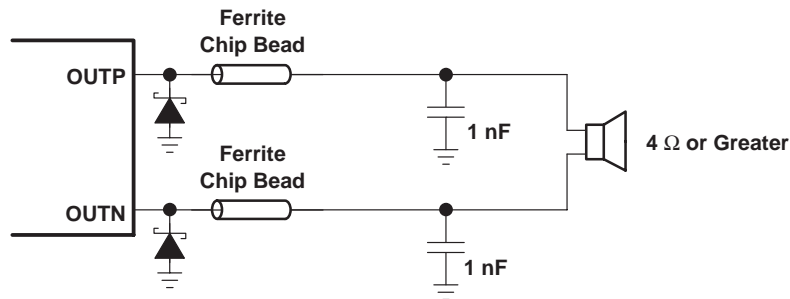
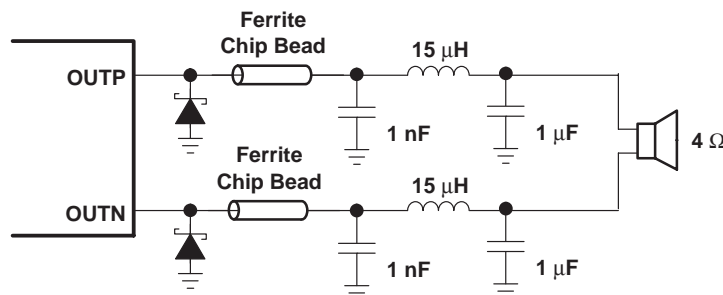
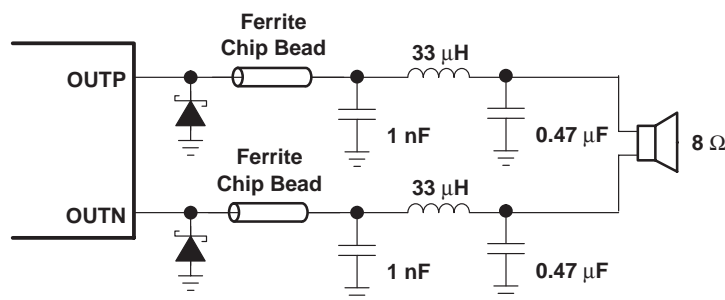

Figure 34. Typical Ferrite Chip Bead Filter (Chip bead example: Fair-Rite 2512067007Y3)
Figure 35. Typical LC Output Filter for 4-Ω Speaker, Cutoff Frequency of 41 kHz
Figure 36. Typical LC Output Filter for 8- Ω Speaker, Cutoff Frequency of 41 kHz
A ferrite bead filter (shown in Figure 34) should be used in order to pass FCC and/or CE radiated emissions specifications and if a frequency sensitive circuit operating higher than 1 MHz is nearby. The ferrite filter reduces EMI around 1 MHz and higher (FCC and CE only test radiated emissions greater than 30 MHz). When selecting a ferrite bead, choose one with high impedance at high frequencies, but very low impedance at low frequencies.
Use an additional LC output filter if there are low frequency (<1 MHz) EMI sensitive circuits and/or there are long wires (greater than 11 inches) from the amplifier to the speaker, as shown in Figure 35 and Figure 36.
- Output filter — The ferrite filter (Figure 34, page 18) should be placed as close to the output terminals (pins 10, 11, 14, and 15) as possible for the best EMI performance. The LC filter (Figure 35, page 18 and Figure 36, page 19) should be placed close to the ferrite filter. The capacitors used in both the ferrite and LC filters should be grounded to power ground.